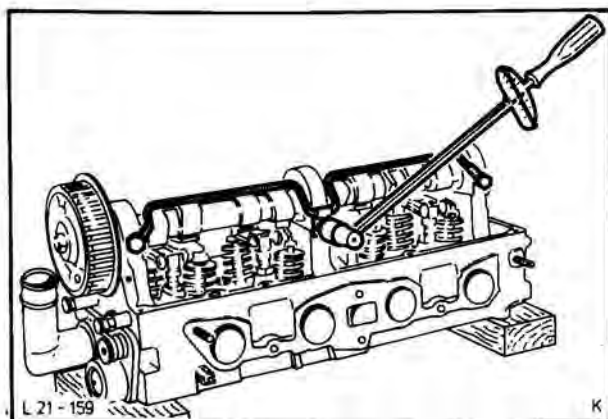

Fig. 164. Fit oil slinger pipe
21. Fit oil splash tube and fit water connection complete with thermostat and new gasket to cylinder head, Fig. 164.